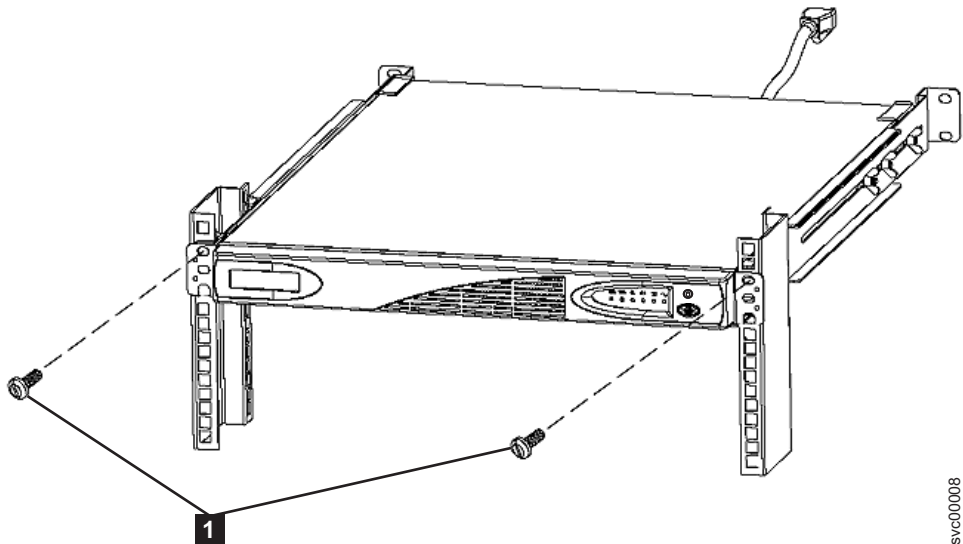

Figure 233. Mounting screws for the 2145 UPS-1U
4. At the front of the 2145 UPS-1U, install the two mounting screws (1 in Figure 233).